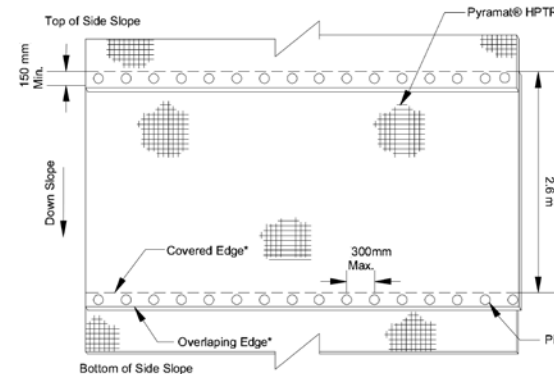

FIGURE 4: PYRAMAT® HPTRM OVERLAP AT ROLL EDGE DETAIL
- a: Roll edge overlap - 150mm minimum overlap with upstream mat on top. Secure with one row of ground pinning devices on 300mm centers (see Figure 4)